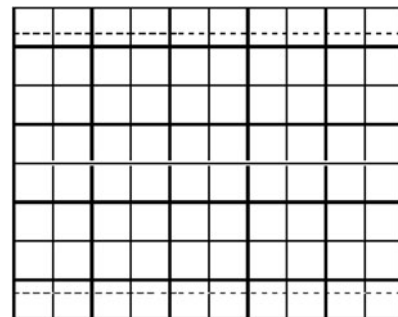

Figure L39-7
- A square wave is made by a clock signal occurring at a steady frequency. Draw a representation of a square wave in the oscilloscope face presented in Figure L39-7.